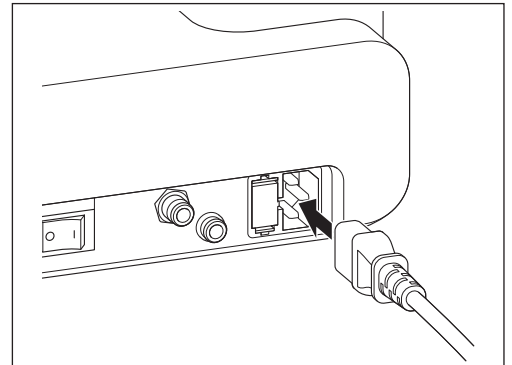

Fig. 1
- 2) Insert the AC Power Cord so that it correctly fits into the AC Power Cord Connector Socket at the back of the Control Unit (Fig. 1).